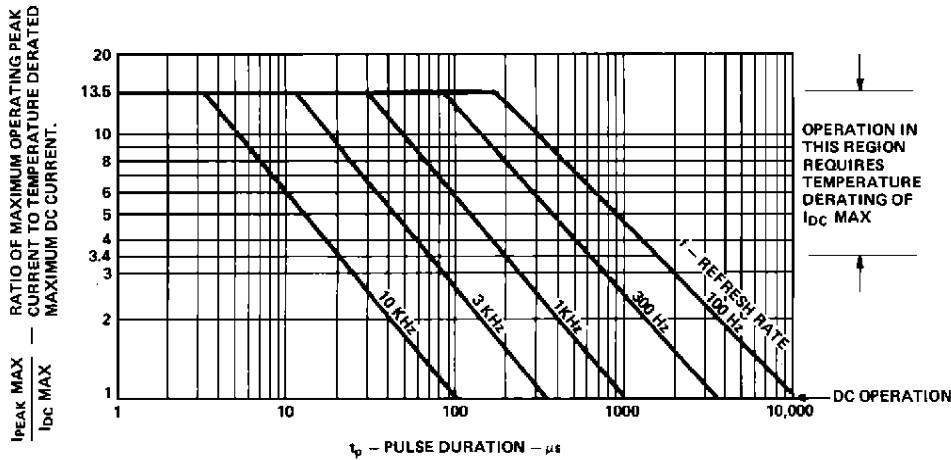
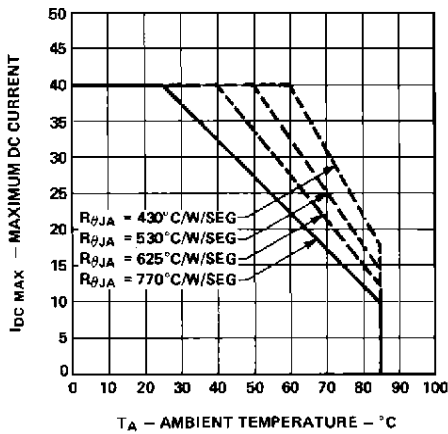

Figure 1. Maximum Allowed Peak Current vs. Pulse Duration.
Figure 2. Maximum Allowable DC Current per Segment vs. Ambient Temperature.
1. See Figure 1 to establish pulsed operating conditions
2. Derate maximum DC current above $T_A = 25^\circ\text{C}$ at 0.50 mA/ $^\circ\text{C}$ per segment, see Figure 2.
Temperature derated strobed operating conditions are obtained from Figures 1 and 2. Figure 1 relates pulse duration (t_p), refresh rate (f), and the ratio of maximum peak current to maximum
dc current ($I_{PEAK\ MAX}/I_{DC\ MAX}$). Figure 2 presents the maximum allowed dc current vs. ambient temperature. Figure 1 is based on the principle that the peak junction temperature for pulsed operation at a specified peak current, pulse duration and refresh rate should be the same as the junction temperature at maximum DC operation. Refresh rates of 1 kHz or faster minimize the pulsed junction heating effect of the device resulting in the maximum possible time average luminous intensity.
Worst case thermal resistance pin-to-ambient is 400°C/W/Seg when these devices are soldered into minimum trace width PC boards. When installed in a PC board that provides $R\theta_{PIN-A}$ less than 400°C/W/Seg these displays may be operated at higher average currents as shown in Figure 2.